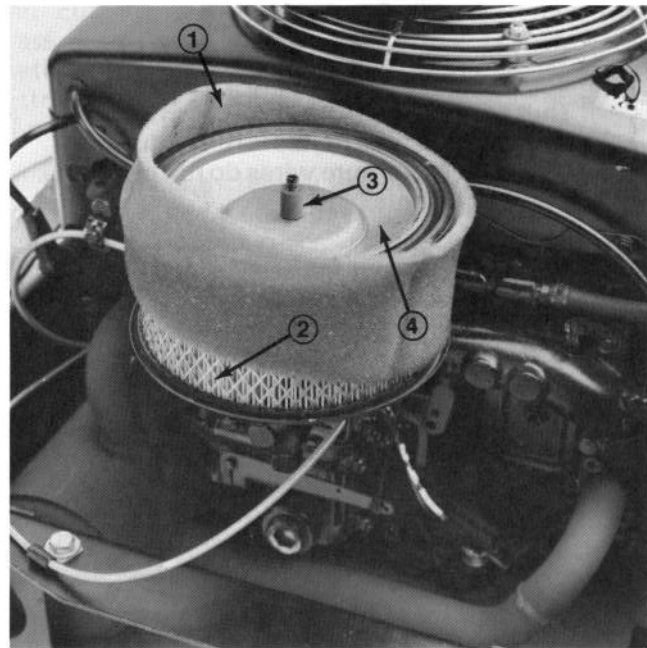

Figure 18
2. Remove foam pre-cleaner by sliding it off the paper element (Fig. 18).